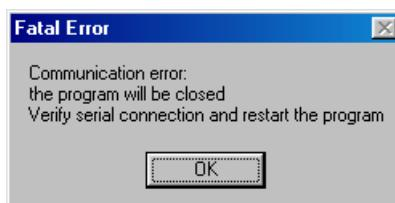

Figure 28 Communication Error Message
- "Communication error: the program will be closed. Verify serial connection and restart the program,"** as shown in Figure 28